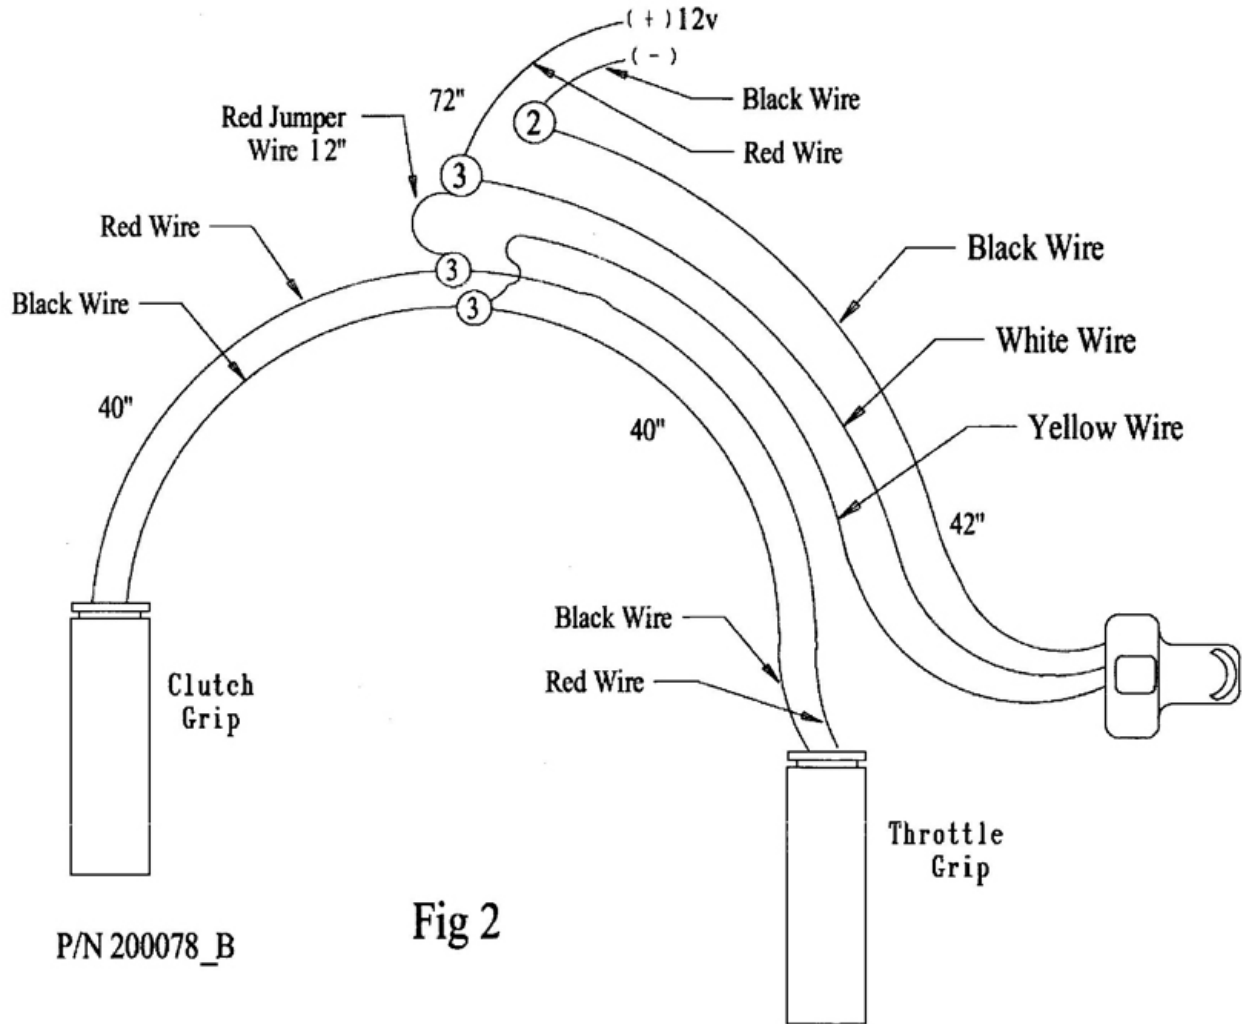

Fig 2
12. Next make the wire connections shown in Figure 2 at the yoke area. The wires from the Clutch and Throttle Heaters and those from the Controller will be attached to a cable in the Kit that will be connected to the 12V supply later. Use a small plastic connector with 2 holes and yellow cap to connect the black wire from the Controller to the black wire in the cable that will supply the 12V power. Push the wires into the plastic connector as far as possible. The wires can be viewed from one side of the clear plastic. With the wires
- The plastic connectors with 3 holes and a red cap should be used to make the other connections shown on Figure 2. The two black wires from the Clutch and Throttle heaters should be connected to the yellow wire from the Controller. Push the wires to the top end of the connector and press the red cap down with pliers like in step 12. The two red wires from the heaters should be connected to the single red jumper wire from the Kit with another red capped connector. The other end of the red jumper wire should be connected to the white wire from the Controller and the red wire from the 12V supply cable with a red cap connector. If desired these same connections can be done by soldering and insulating the wires.